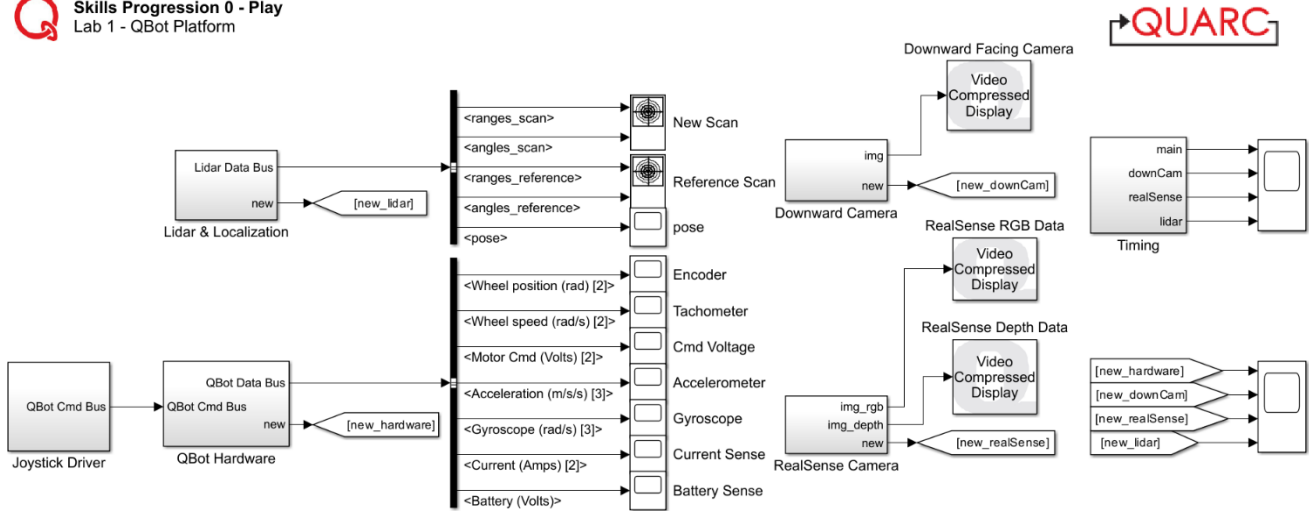

Figure 3. Lab 1 Play Simulink Model
4. Open the Simulink Model play.slx, as shown in Figure 3. Configure the model so that it can be deployed to the QBot Platform: